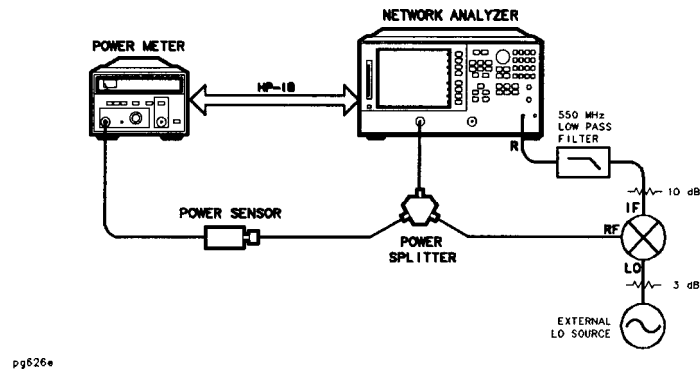

Figure 3-5.
13. Make the connections as shown in Figure 3-5 for the one-sweep power meter calibration over the RF range.